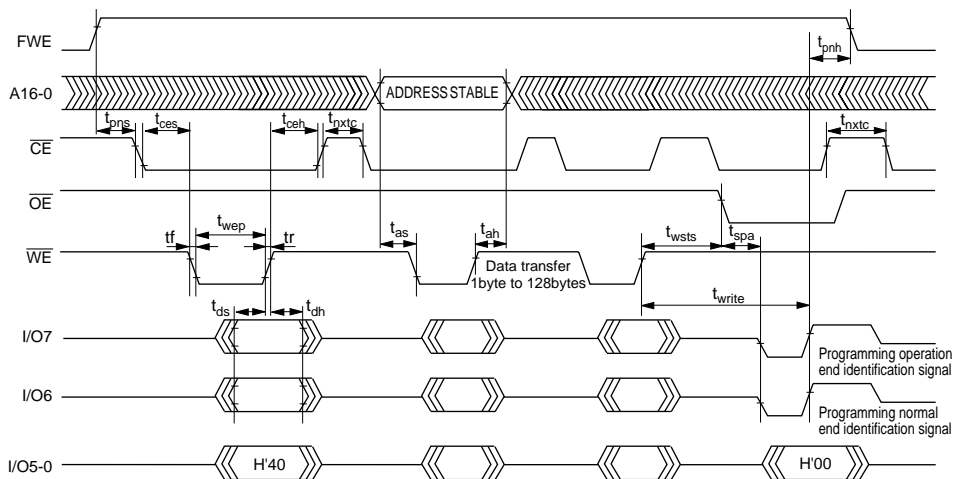

Figure 18.20 Auto-Program Mode Timing Waveforms
- Memory address transfer is performed in the second cycle (figure 18.20). Do not perform transfer after the second cycle.